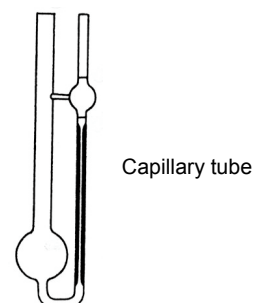

Figure 8 Capillary Viscometer (Free-fall)
There is another type of capillary viscometer made of glass as shown in Figure 8. Although processing of this capillary tube is not easy, it has rather simple principles and a simple structure. Due to the simplicity of its principles, it has been used since early times and has greatly improved over time. This capillary viscometer can obtain kinetic viscosity ν by measuring time t taken by a certain amount of sample to flow by free-fall through the capillary tube. Each viscometer is given the viscosity constant C, which was valued by calibrating with Viscosity Standard Fluid. The measurement of kinetic viscosity with this capillary viscometer is represented by equation (15) below;
Unlike the vibro viscometer or the rotational viscometer, the capillary viscometer or the falling-ball viscometer shown in Figures 8 and 9 cannot continuously measure viscosity. It is also impossible to continuously output digital signals of viscosity coefficient or to control data.